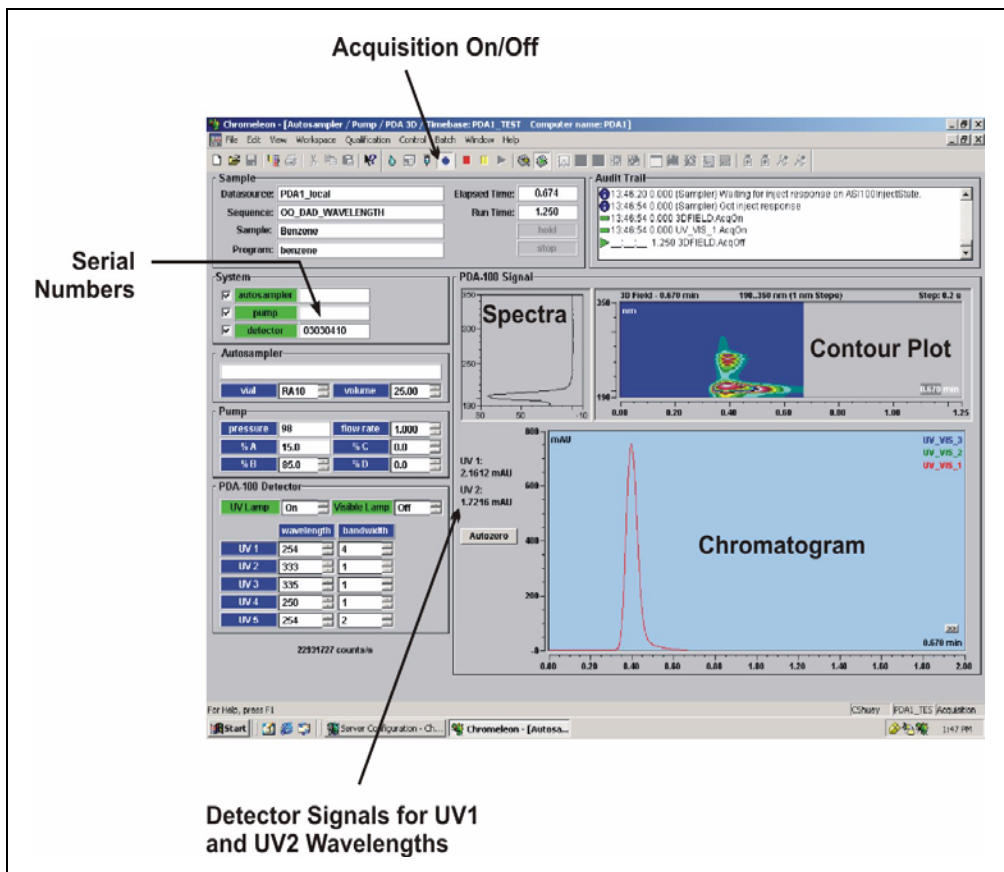

Figure 3-2. PDA-100 3D Control Panel Example
- DIONEX_PUMP_PDA3D_AUTOSAMPLER.PAN, the 3D control panel, monitors chromatograms, contour plots, and spectra on-line (see Figure 3-2). The 3D control panel is available only when PeakNet 6 or Chromeleon includes the 3D option.
- DIONEX_PUMP_PDA3D_AUTOSAMPLER.PAN, the 3D control panel, monitors chromatograms, contour plots, and spectra on-line (see Figure 3-2). The 3D control panel is available only when PeakNet 6 or Chromeleon includes the 3D software option.